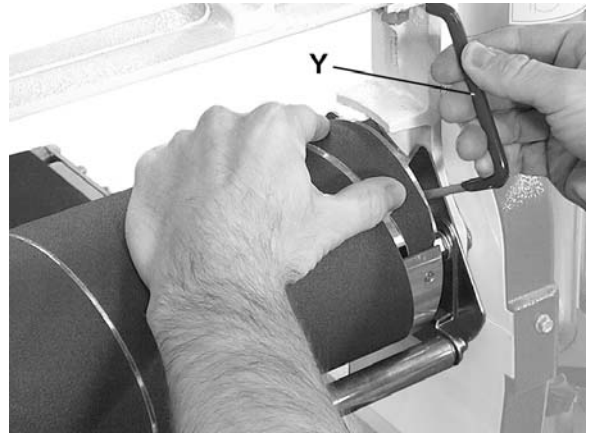
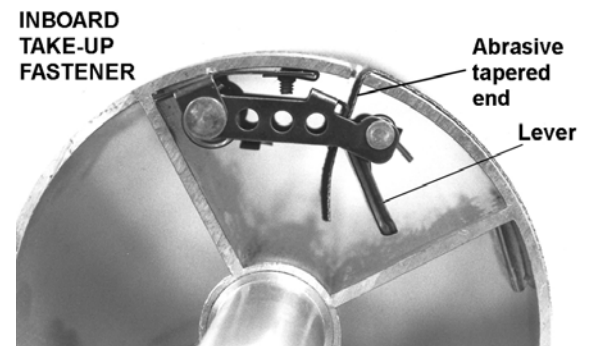

Figure 13
Figure 15
8. You can use your fingers to work the infeed take-up fastener, but it will be more convenient to use the TUFTool (Y, Fig. 13) supplied with your sander. Hold the TUFTool with the red end pointing away from you (Figure 13) and insert its hook into the outside hole of the fastener lever (see Figure 15).
12. Hold the abrasive in place with your left hand, lift up the TUFTool and turn it clockwise while maintaining upward pressure. Slowly move the TUFTool away from you slightly, then down, while easing it out of the hole. This releases the lever in its proper position (Figure 15).